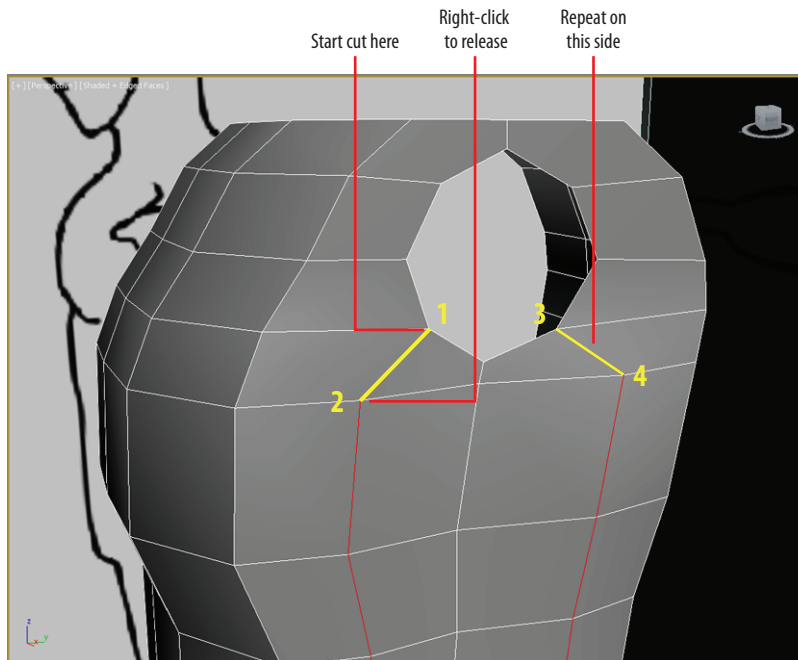

FIGURE 7.14 Use the Cut tool to add two edges under the armhole.
24. The Cut tool will still be active, so click on the third vertex and create the second new edge down to the fourth vertex, shown in Figure 7.14; right-click to commit the second edge.